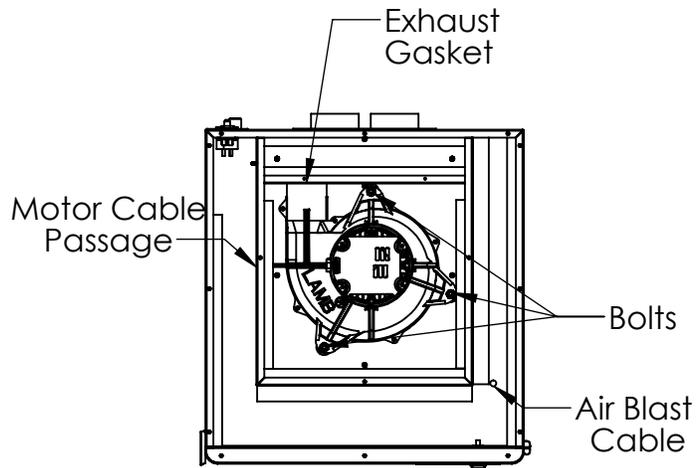
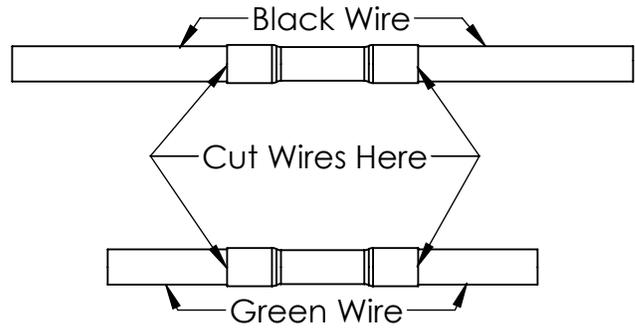

Fig. 1
Fig. 2
5. Disconnect the motor cables at the white connectors and locate the 3 mounting bolts that secure the motor in place (Fig. 1). Use a 1/2" socket or wrench to remove the motor mounting bolts. Once the bolts have been removed, you can take out the motor. Make sure to save the 3 bolts and 3 metal standoffs for mounting the replacement motor.
- b. In the front right corner of the unit you will see a black cable routed through the sheet metal bulkhead and up to the back of the *Control Panel* (Fig. 1). Follow this black cable upwards from the bulkhead until you find two, red, double crimped connectors. Once they have been located, remove them by cutting the wires at both ends of the connector (Fig 2). You can discard these connectors.
8. Insert the replacement motor into the motor compartment, and align the 3 mounting holes on the motor housing with the 3 rubber motor mounts on the bulkhead below. One at a time, place the metal standoff between the rubber motor mounts and the motor housing mounting holes, and feed the bolt through the motor housing and standoff. Once all three bolts are in position, firmly press down on the top of the motor and begin tightening the bolts until the motor is secure. **NOTE:** Make sure that the gasket that seals the motor's exhaust port (in the motor compartment towards the back of the unit - see Fig. 1) is not compromised and is still in proper position.
10. Locate the motor compartment cable passage hole by reaching your hand down in the chanel (between the foam) and will feel for an opening in the soundfoam, along with a hole in the sheet metal (Fig. 1). Next, take the three wire (black, white, and green) cable that branches off the longer cable and feed it through the cable passage into the motor compartment.